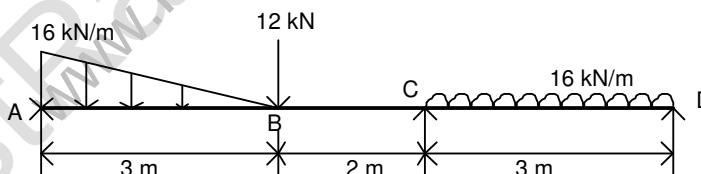

Fig. 2
2. Draw shear force and bending moment diagrams for the beam shown in Fig. 2. Determine the magnitudes and locations of maximum bending moment for the portions of the beam AB, BC and CD. (15M)